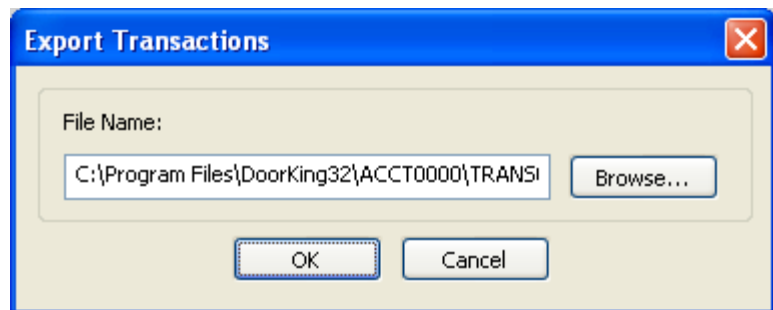

Figure 62
1. After the transaction file is open and displayed on your screen, click the EXPORT button in the toll bar. The EXPORT TRANSACTION window (Fig 62) will appear.